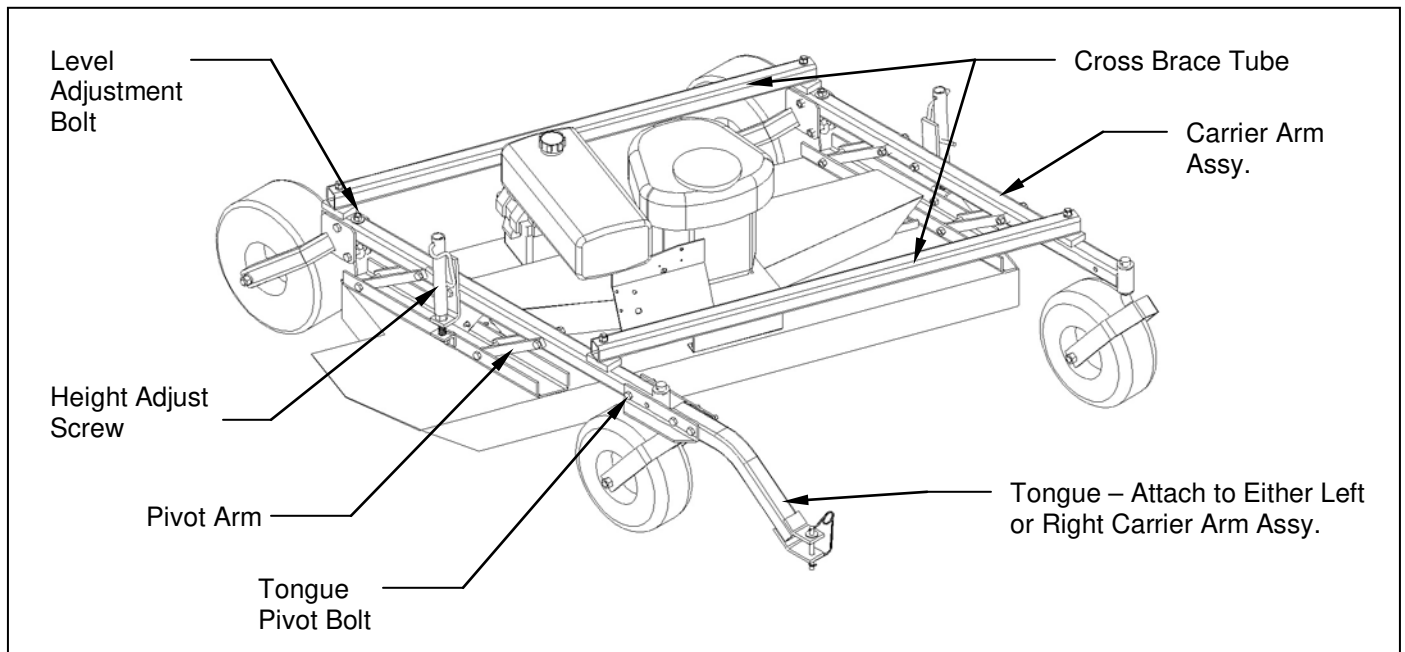

Figure 1. Assembly of Carrier Arm Assy., Tongue and Cross Brace Tubes
2. Install the two carrier arm assemblies in the pivot arms, which are located on the mower deck assembly. Place the assembly so that the castored tires are on the front and the fixed tires are on the back. **See figure 1.** Secure with 1/2" x 3-1/2" hex head bolts and lock nuts provided on
1. The tongue can be installed either on the left or right caster assembly depending on how the wing mower will be towed. **See figure 1.** Tighten the lock nut on the 1/2" x 3-1/2" pivot bolt so the tongue is free to pivot but does not move sideways.